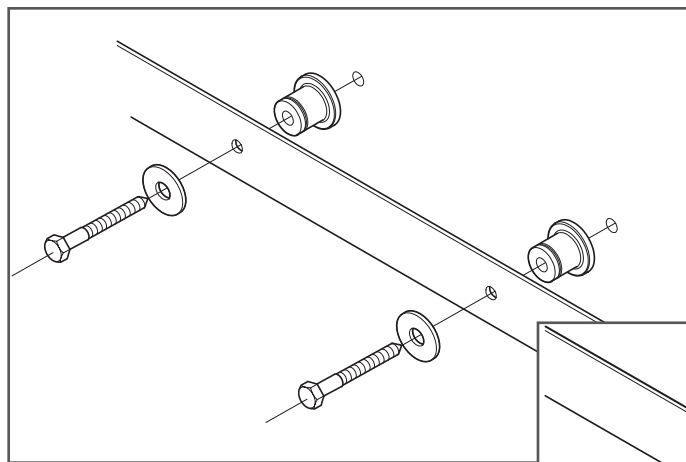

Figure 5
9. Install remaining spacers with lag screws and washers (provided) using a 9/16" socket wrench (Figure 5). Tighten all lag screws.